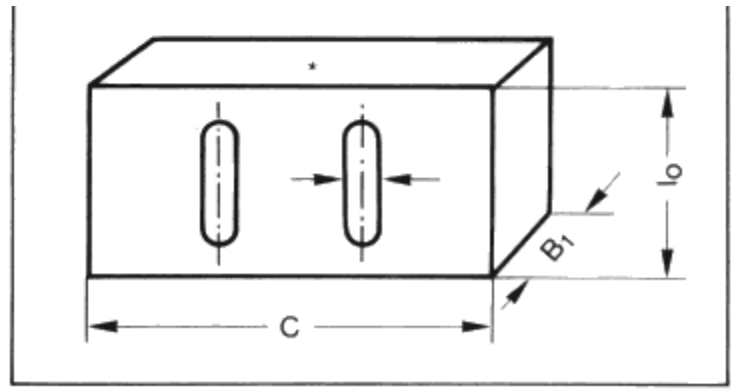

Figure 49: Sonotrode with rectangular form (with slots)
Sonotrodes which on account of large lateral dimensions require slots (figure 49) should under no circumstances be made by the user himself unless he has sufficient basic knowledge about the construction of sonotrodes.
3. Stepped form with square and rectangular section (figure 49)